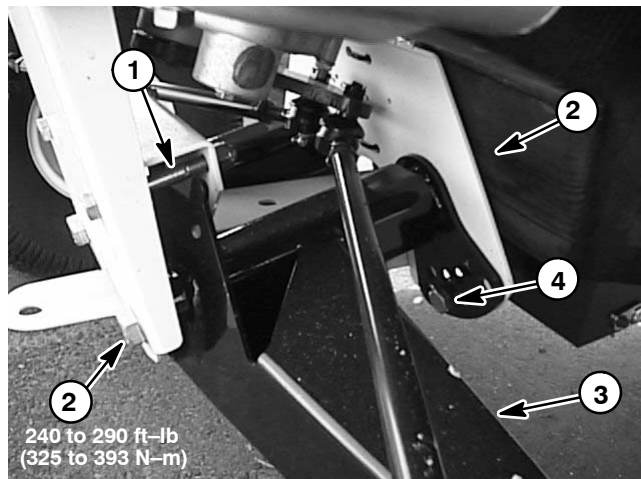

Figure 5
3. Remove travel limiting bolt (Fig. 5).
4. Loosen centering bolts (front and rear) in the A-arm (Fig. 5).
8. Replace travel limiting bolt (Fig. 5 and 6).